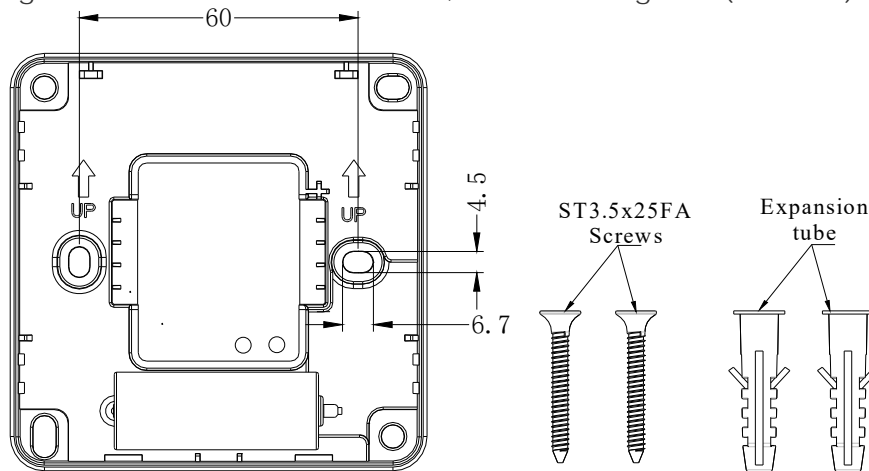
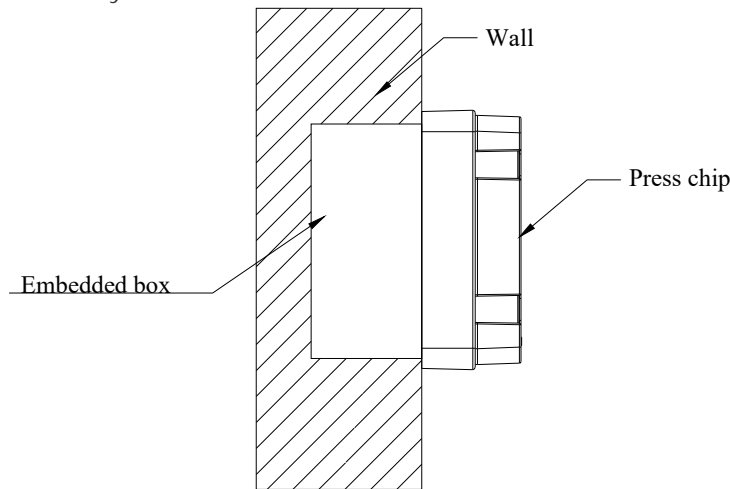

Figure 2 MCP base and fixed accessories
Figure 3 Alarm button installation diagram
2. Schematic diagram of the size of the MCP base, as shown in Figure 2 (unit: mm)
① Detect network signals through handheld devices and install wireless MCP at the location with the best network signal.
② The wireless MCP should be installed in a prominent and easy-to-operate location. When installed on the wall, the bottom edge should be 1.3-1.5m above the ground (floor). The MCP should be installed firmly and should not tilt.
3. The installation diagram of the wireless MCP is shown in Figure 3: fix the base of the wireless MCP to the wall with a plastic expansion tube and 3.5 × 25FA screws, and the installation hole spacing is shown in Figure 2. Insert the battery plug into the wireless MCP battery holder and install it